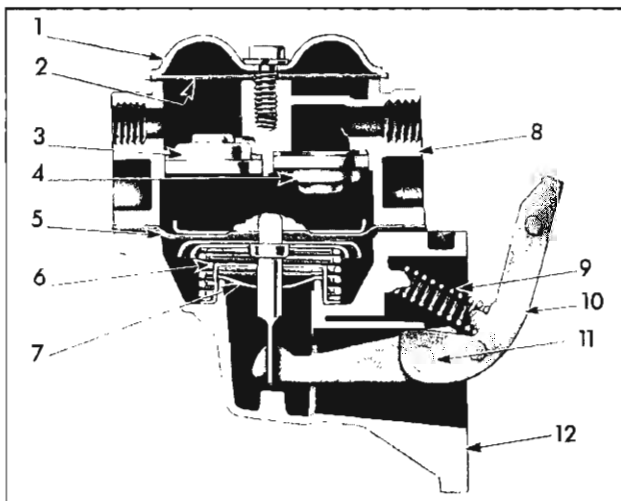

Fig. 53—Six Cylinder Engine Fuel Pump
4. If either valve was removed from the valve body and fuel cover, install by placing gasket in recess and pressing valve into place. See position of valves in Figure 53. Secure valve assembly by staking cover metal in four places around valve.